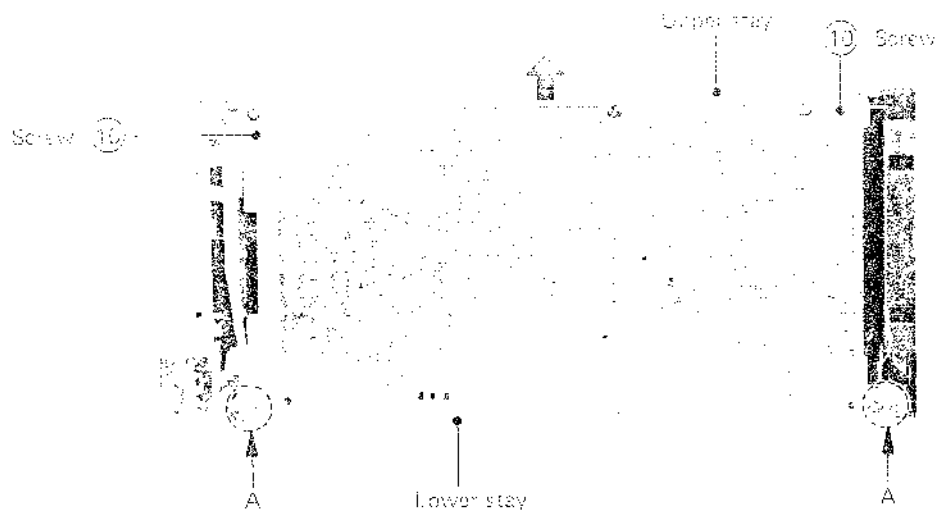

Fig. 3-18
1. Take out 2 screws (10) shown in Fig. 3-18.
4. When reinstalling the board, observe that it is properly engaged with the lower stay (A in Fig. 3-18). Check life after reassembly.